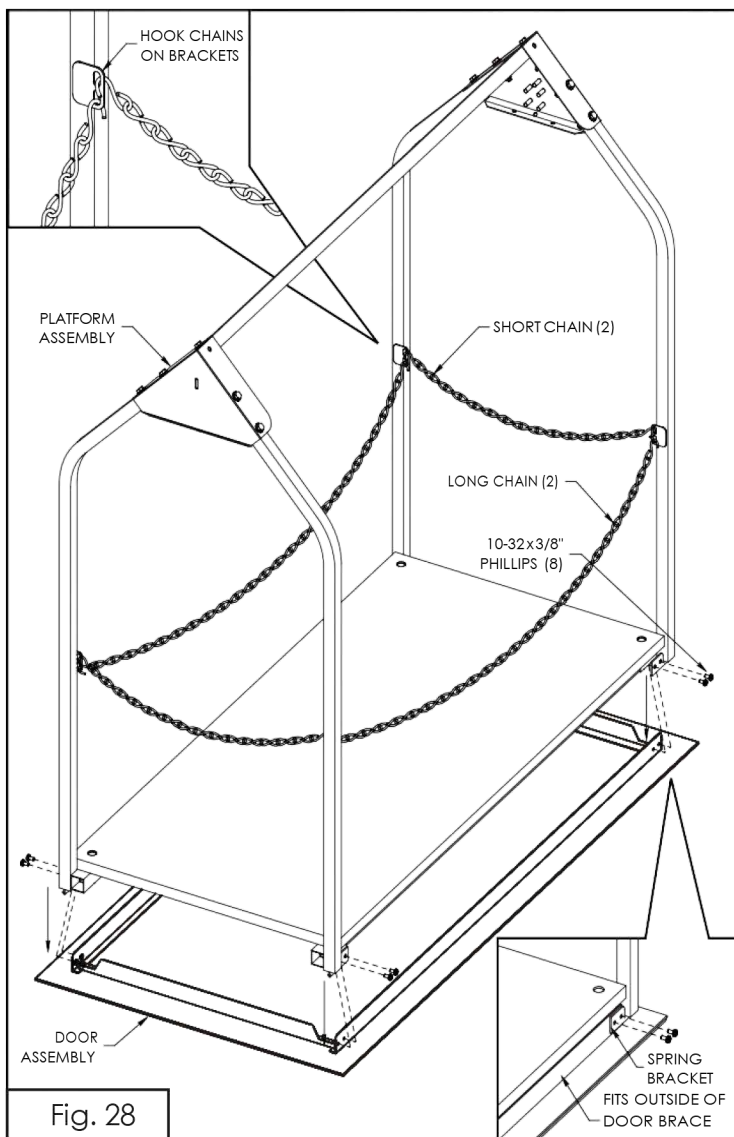

Fig. 28
7-1. Locate the (8) 10-32x3/8" screws. Lift the platform assembly onto the door assembly (Fig. 28).
Note: The spring brackets on the end of the platform legs fit outside of the door braces (Fig. 28 inset).
7-3. Locate the short and long chains. The last link on each end of each chain is open to form a hook. Hook the end of each chain onto the chain brackets on each platform leg (Fig. 28 and inset). You can open the hook further with pliers, if needed, to make it easier to hook.